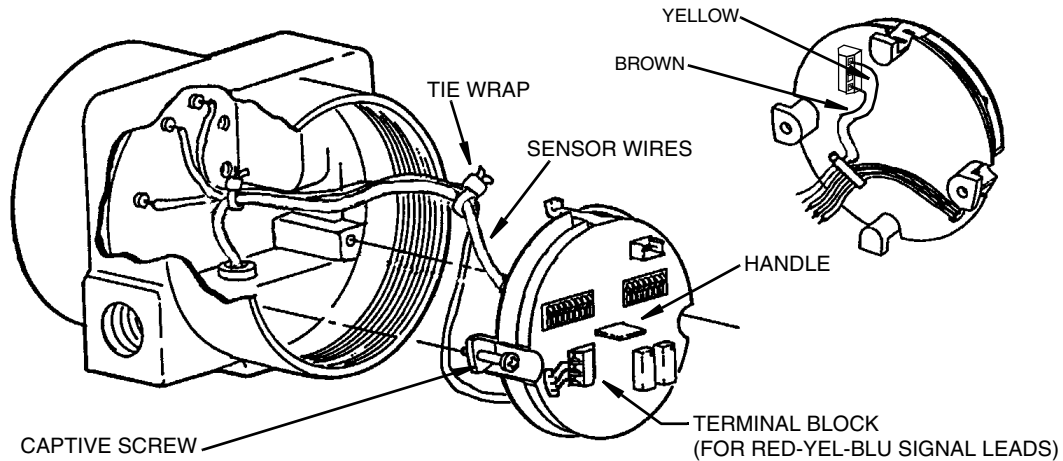

Figure 28. Electronic Module Removal
5. Pull electronic module (using handle in center of Electronic Module label board) far enough out of the housing to be able to disconnect the brown and yellow sensor leads from the terminal block on the back of the electronic module. Refer to Figure 28.
4. Refer to Figure 28. Connect the brown and yellow sensor leads to the color coded terminal block on back of the Electronic Module.